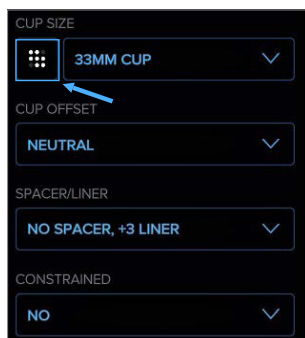

Figure 56. Cup/Liner selection
- Access the implant compatibility matrix (Figure 59) as shown below in Figure 56.